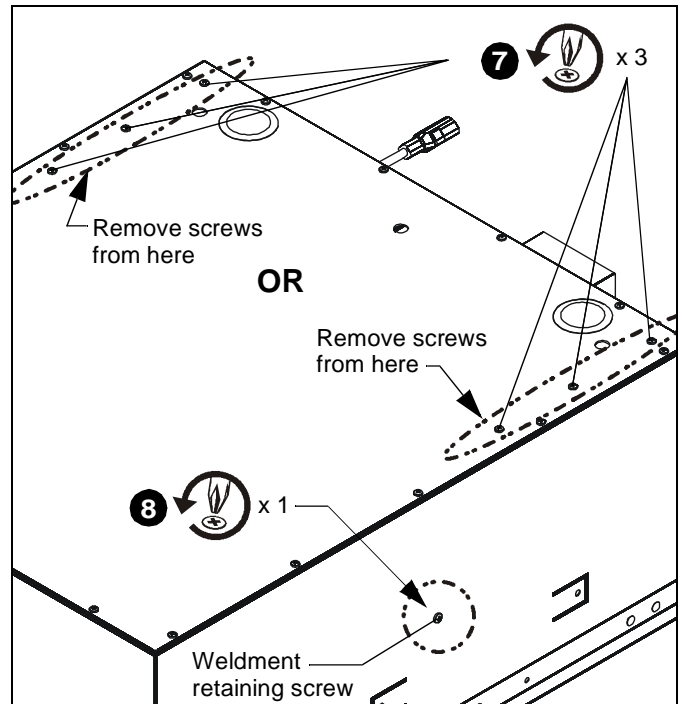

Figure 3
7. Remove three screws from top of affected side of lift. (See Figure 3)
8. Remove one weldment retaining screw from outside center of affected side of lift. (See Figure 3)